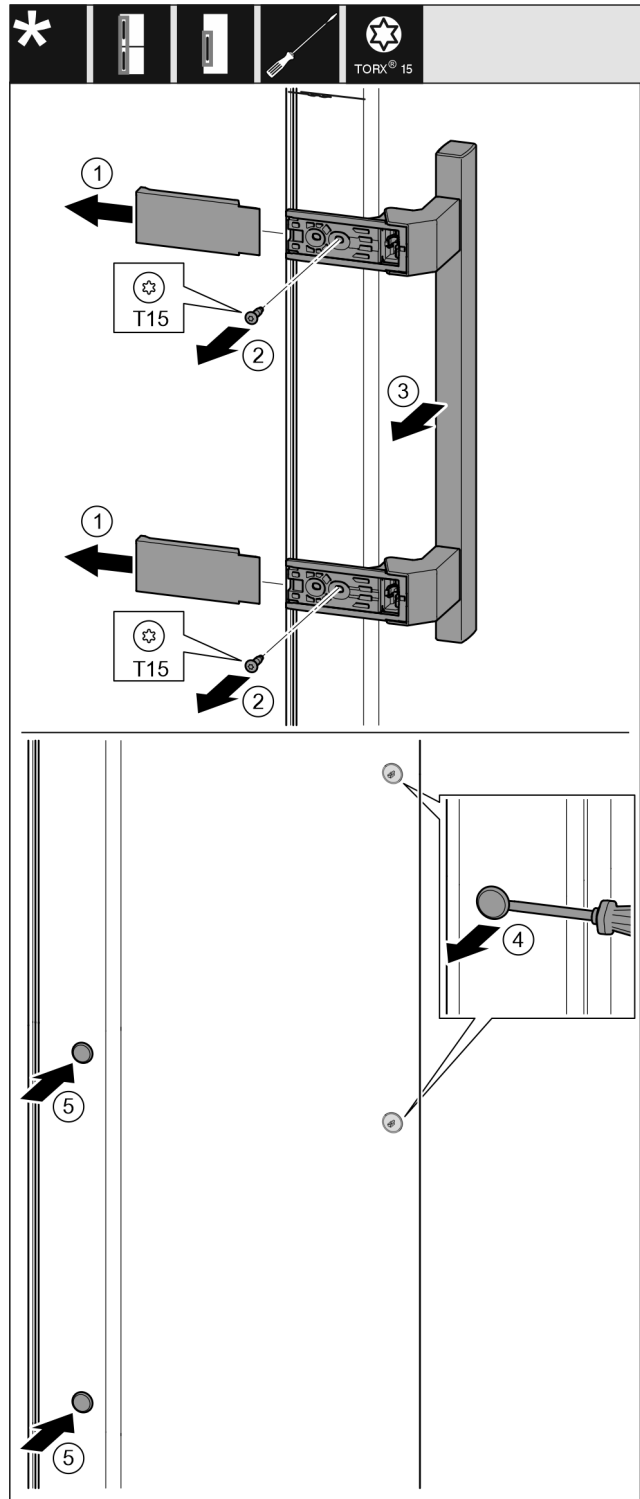

Fig. 22
- Pull off the cover. Fig. 22 (1)
- Remove the screws with the T15 screwdriver. Fig. 22 (2)
- Remove the handle. Fig. 22 (3)
- Carefully lift up the side plugs with a slotted screwdriver and pull them out. Fig. 22 (4)
- Insert the plugs again on the other side. Fig. 22 (5)